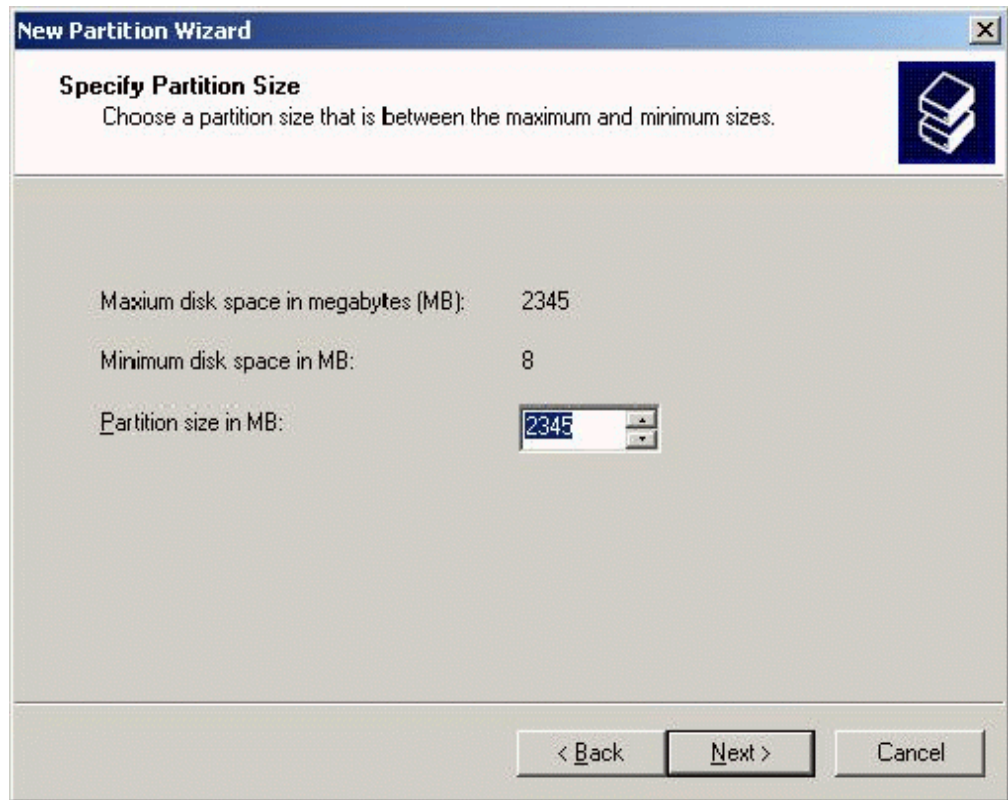

Figure 2-12: Specifying the Partition Size
3. When the Specify Partition Size panel appears (Figure 2-12), specify the desired partition size. If the size is greater than 1024 MB, you will be asked to confirm the new partition. Click **Next**.